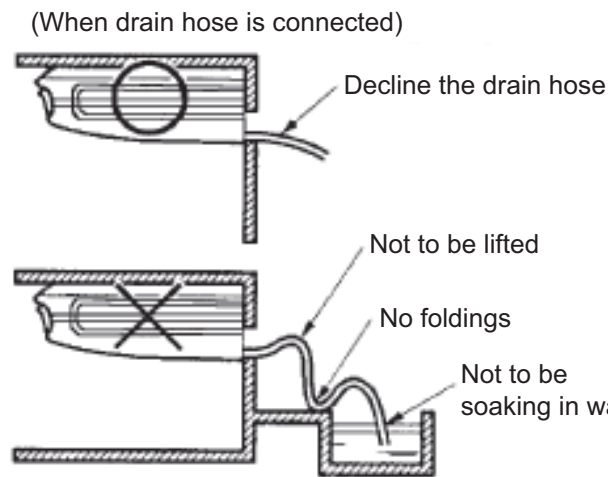
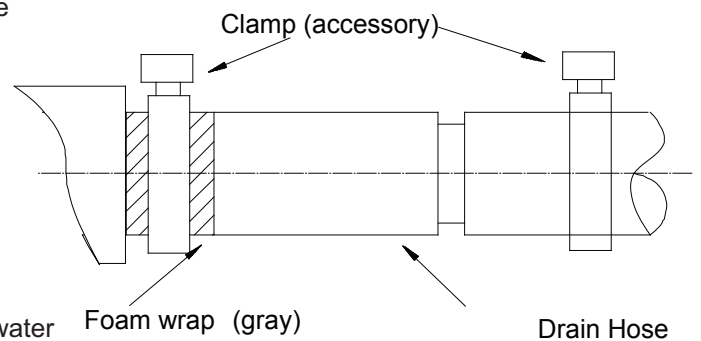

Fig.10
Fig.11
- * The drainpipe should be as short as possible and slope downward at a gradient of at least 1/100 to prevent air pockets.(Refer to Fig.10)
- * Use the attached drain hose ④ and clamp ⑤ .
- * Insert the drain hose completely into the drain socket. Tighten the clamp within the range of gray tape until the screw head is less than 0.2 inches (4 mm) from the hose. (Refer to Fig.11, Fig.12)